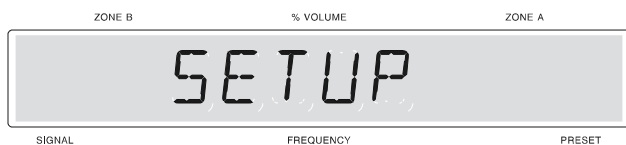

Figure 5
1. Press and hold the front panel Setup pushbutton approximately three seconds to enter the Setup Mode. The SETUP pushbutton will illuminate, the word SETUP will appear on the front panel display and the MAIN SYSTEM SETUP MENU will appear on the Monitor/TV screen. Refer to Figures 5 & 6.